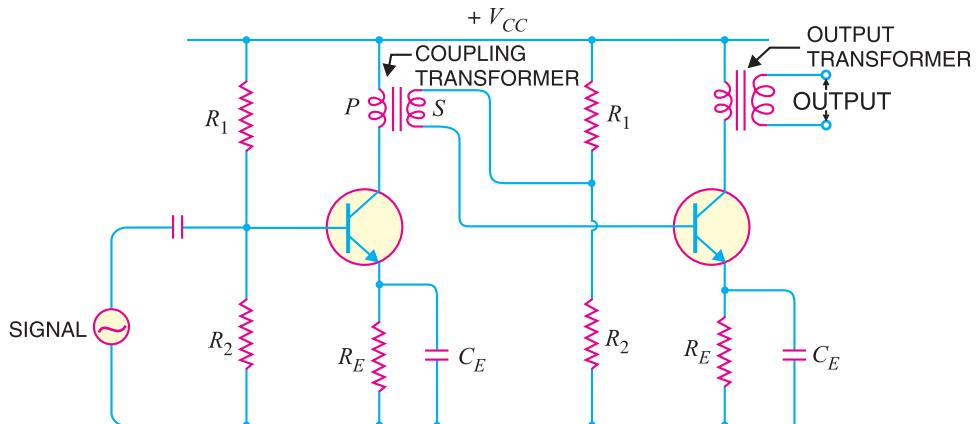

Fig. 11.15
Transformer coupling is generally employed when the load is small. It is mostly used for power amplification. Fig. 11.15 shows two stages of transformer coupled amplifier. A coupling transformer is used to feed the output of one stage to the input of the next stage. The primary  $P$  of this transformer is made the collector load and its secondary  $S$  gives input to the next stage.
**Operation.** When an a.c. signal is applied to the base of first transistor, it appears in the amplified form across primary  $P$  of the coupling transformer. The voltage developed across primary is transferred to the input of the next stage by the transformer secondary as shown in Fig. 11.15. The second stage renders amplification in an exactly similar manner.